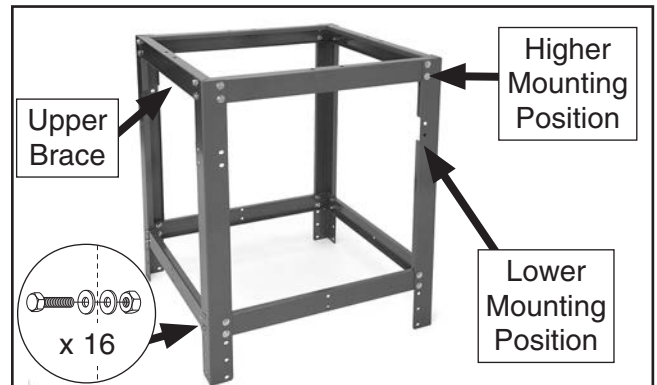

Figure 4. Upper braces attached to stand assembly.
2. Attach upper stand braces to the assembly, using (16) $\frac{3}{8}$ "-16 x $\frac{3}{4}$ " hex bolts, (32) $\frac{3}{8}$ " flat washers, and (16) $\frac{3}{8}$ "-16 lock nuts (see **Figure 4**). **Note:** Attach braces to the lower mounting position unless you have the 55 gallon extension kit.